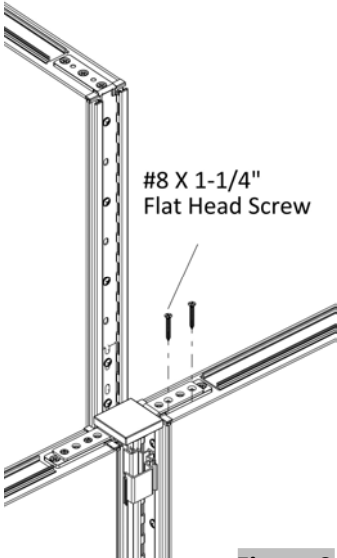

Figure 9
- 15. Drive two #8 X 1-1/4" Flat Head Screws through the holes in holes in straight top connector into the third panel, (Figure 9).